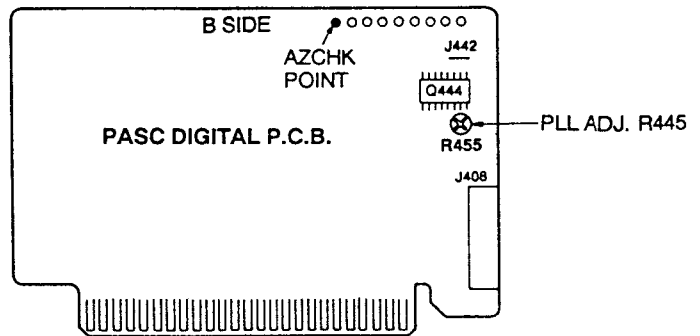

Fig. 11
1. Connect the oscilloscope to the AZCHK terminal of the PASC DIGITAL P.C.B. (Fig. 11).